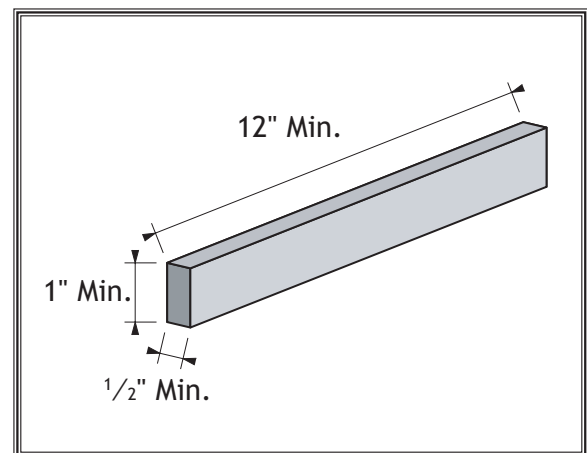

Figure 30. Minimum dimensions for edge jointing.
- **Make sure your workpiece exceeds the minimum dimension requirements (Figures 30 & 31) before edge jointing or surface planing, or it may break or kick back during the operation!**